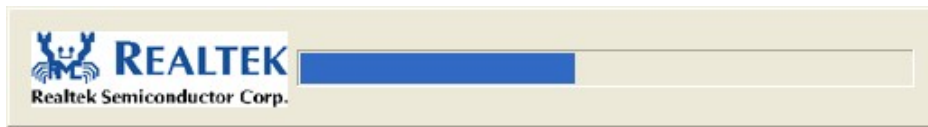

Figure 6-21: Audio Driver Installation
Step 7: The audio driver installation begins. See **Figure 6-21**.